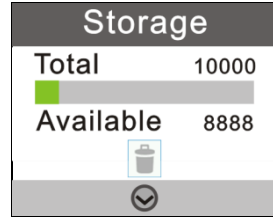

Fig 3.14 Storage Deletion
- Press <  **Down** > key to move the cursor and select  for storage deletion, as shown in Figure 3.14.